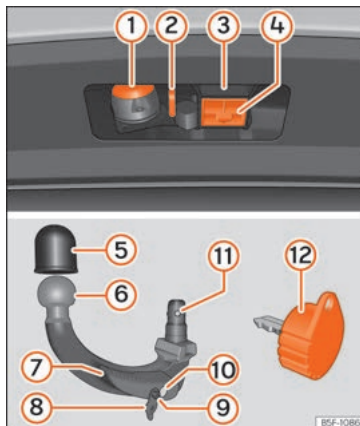

Fig. 291 Towing bracket device support / detachable ball joint / key.
Key to » **Fig. 291**
- Remove the hook housing cap ④ » **Fig. 291** downwards.